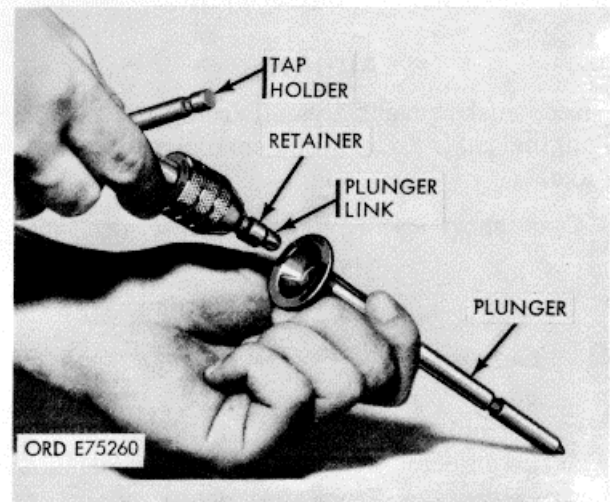

Figure 3-51. Injector Link-removal/installation.
i. Using a collet type hand tap holder, pull injector links (fig. 3-51).